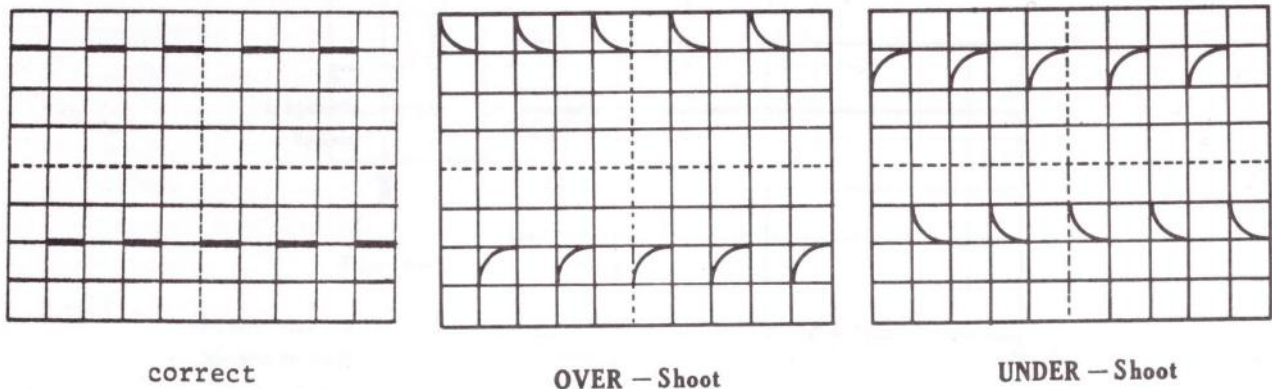

Fig 6-1. Phasing of probe & Waveform
4. Adjust the variable capacitor of the probe using the small driver, and set the top of the waveform to the correct phasing shown in Fig. 6-1